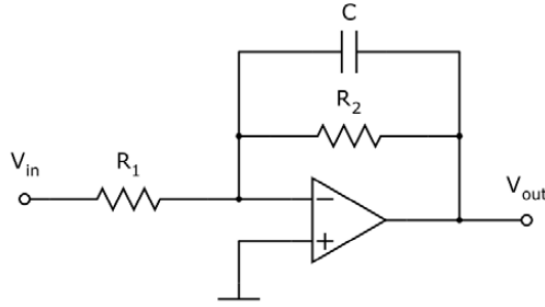

Figure 1: Schematic of an active inverting low-pass filter circuit
In this experiment, you will construct and test an active, inverting low-pass filter circuit. With the circuit complete and properly functioning, you will test the output from the circuit for various input frequencies using the function generator. At each test frequency, you will record the low-pass filter circuit's magnitude ratio and time delay. In your laboratory notebooks, draw the circuit for the experiment and record the steps involved for the experiment. Ensure you include all the details, as you will need them for the post-laboratory assignment. Figure 1 shows an active, inverting low-pass filter.
1. Setup an active inverting low-pass filter circuit as shown in Fig. 1 with a gain of $G=1$ on the breadboard.